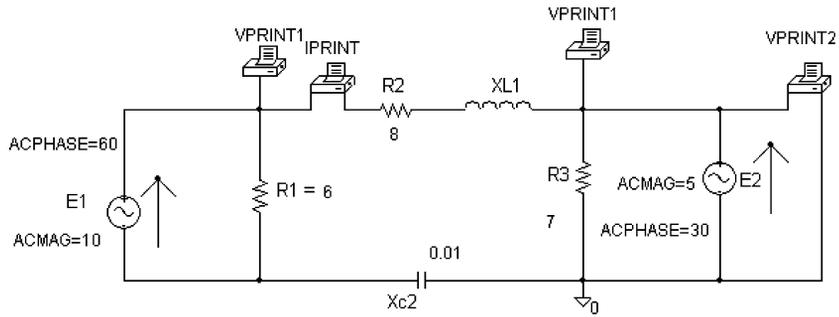

FIGURE 5.15: Mesh problem
- (2) Investigate the schematic in Fig. 5.15 and measure all loop currents and node voltages.